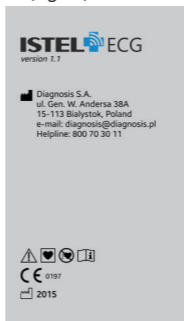

Fig. 22
- About the application. Manufacturer's information, Istel ECG application version (Fig. 22).